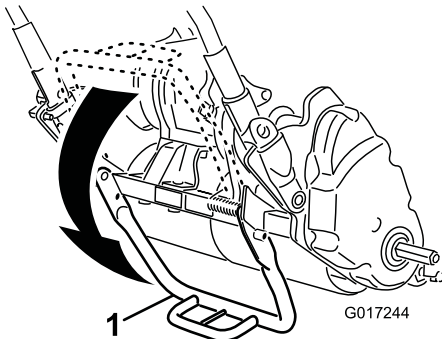

Figure 15
1. Push the kickstand down with your foot and pull up on the handle support until the kickstand has rotated forward, over center (Figure 15).